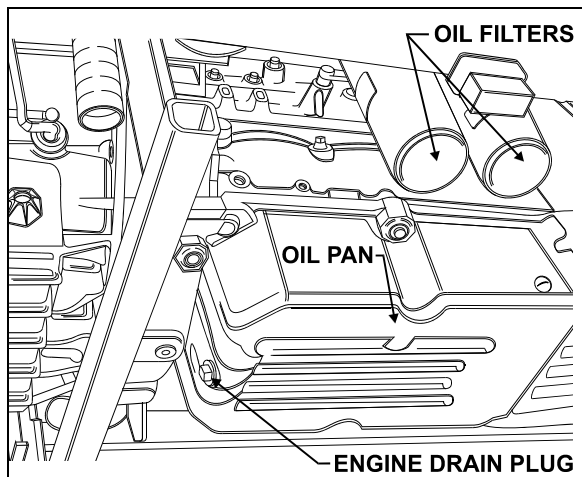

FIGURE 14: UNDER VEHICLE VIEW
1. From under the vehicle, remove the engine drain plug on the oil pan. Allow oil to drain (Fig. 14).